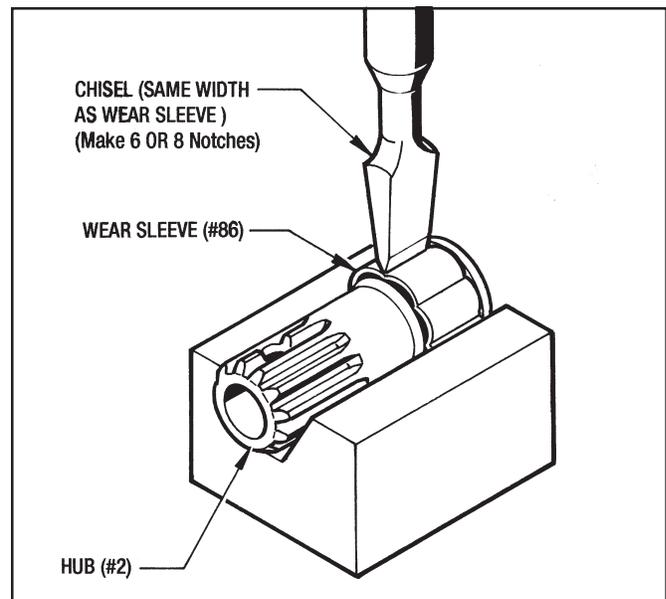

Figure 7.3 - Removing Wear Sleeve (#86)
3. Check the Wear Sleeve (#86) on the Hub (#2). If replacement is necessary use a chisel the same width as the Wear Sleeve and make about (6) or (8) notches in the sleeve. The Wear Sleeve (#86) can now be removed by hand. (See Figure 7.3)